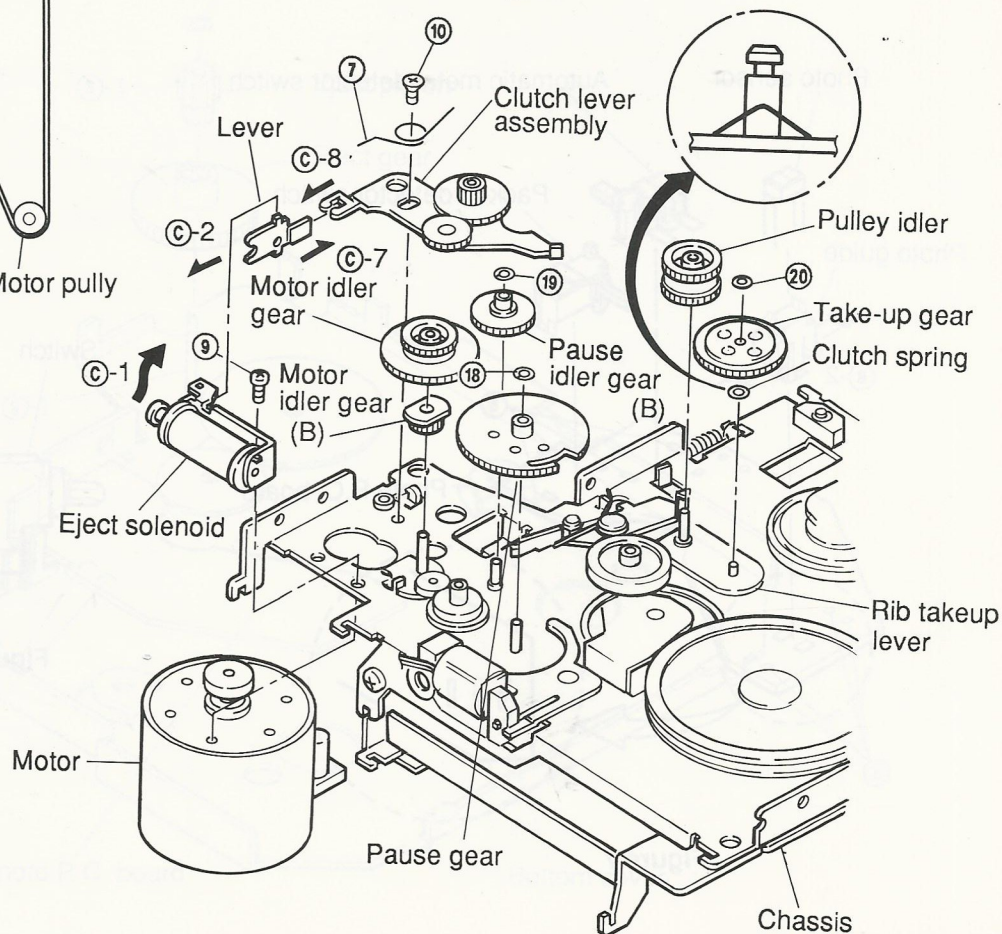

Figure 10
- (1) After removing the belt, remove spring ⑦ as shown in Figure 10.
- (3) Remove two screws ⑨ and ⑩, and remove the motor, taking care not to damage the motor idler gear. (Refer to Figure 10.)
- (4) Mount the new motor following the removal steps in the reverse order.
- (2) Remove screw (9) and remove the play solenoid as shown in Figure 10.
- (3) Align position (C)-1 of the new solenoid with position (C)-2 of the lever and fasten the screws as shown in Figure 10.
- (4) Lead the wire through the tube and solder it.
- (1) After removing the motor, remove the motor idler gear and the motor idler gear (B) and remove the clutch lever assembly as shown in Figure 10.
Note: When mounting the gears to the lever, apply grease (FLOIL 425A) to the position C-6 as shown in Figure 15. Align the position C-7 with the position C-8 and mount the clutch lever as shown in Figure 10.
- (1) Remove M1.2 lock washer (18) and remove the pause gear pulling it up from the stud of the chassis as shown in Figure 10.
- (2) Mount the new gear following the removal steps in the reverse order.
- (1) After removing the motor and the motor idler gear, remove M1.2 lock washer (19) and remove the gear by pulling it up from the stud of the chassis as shown in Figure 10.
- (2) Mount the new gear by following the removal steps in the reverse order.
- (1) After removing the belt and the pulley idler gear, remove M1.2 lock washer (20) by pulling it up from the stud of the rib take-up lever assembly as shown in Figure 10.
- (2) Remount the take-up gear following the removal steps in the reverse order.